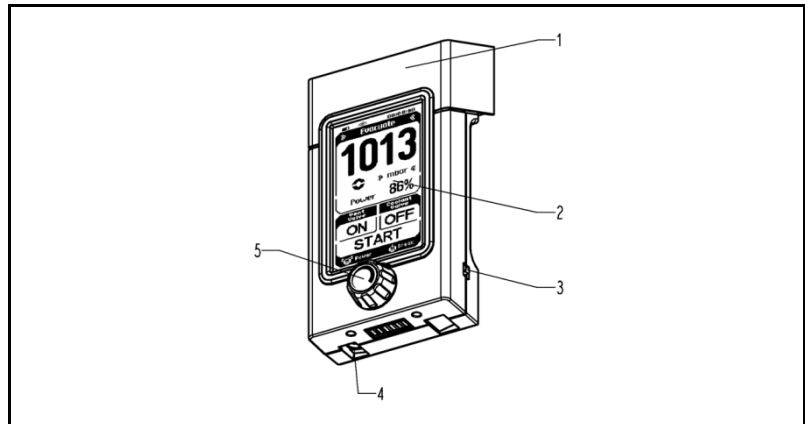

Fig. 9: Hand terminal
- a rotary knob (Fig. 9/5) and
- a touchscreen (Fig. 9/2).
Hold the hand terminal by the upper grip (Fig. 9/1) and pull until it releases.
into the charging station (Fig. 2/12); then firmly press the hand terminal at the upper grip (Fig. 9/1) until it engages.